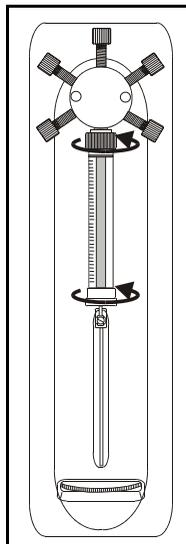

Figure 4-1. Tightening the Syringe
- Make sure the syringe is tightened. To tighten, hold the syringe at the top and bottom fittings and turn it to the right (as viewed from the front) (see Figure 4-1). Tighten fingertight only; do not overtighten.